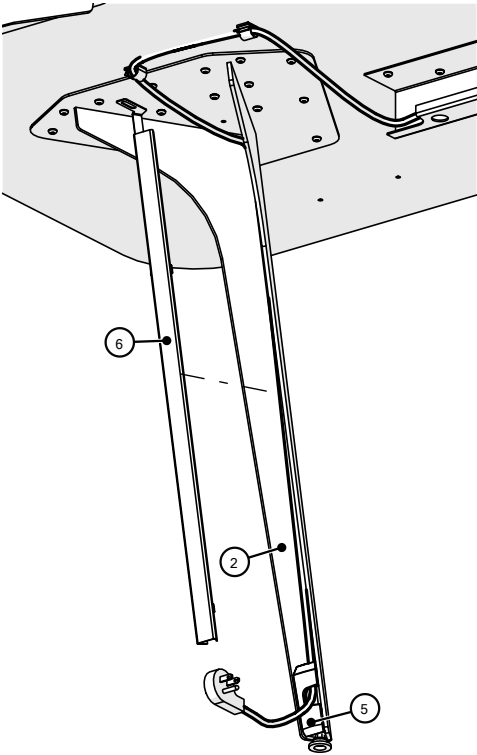

Figure 4
- 4. Peel the double-sided dots of wire guide; Position the wire guide and stick it to V-leg, (Figure 4).